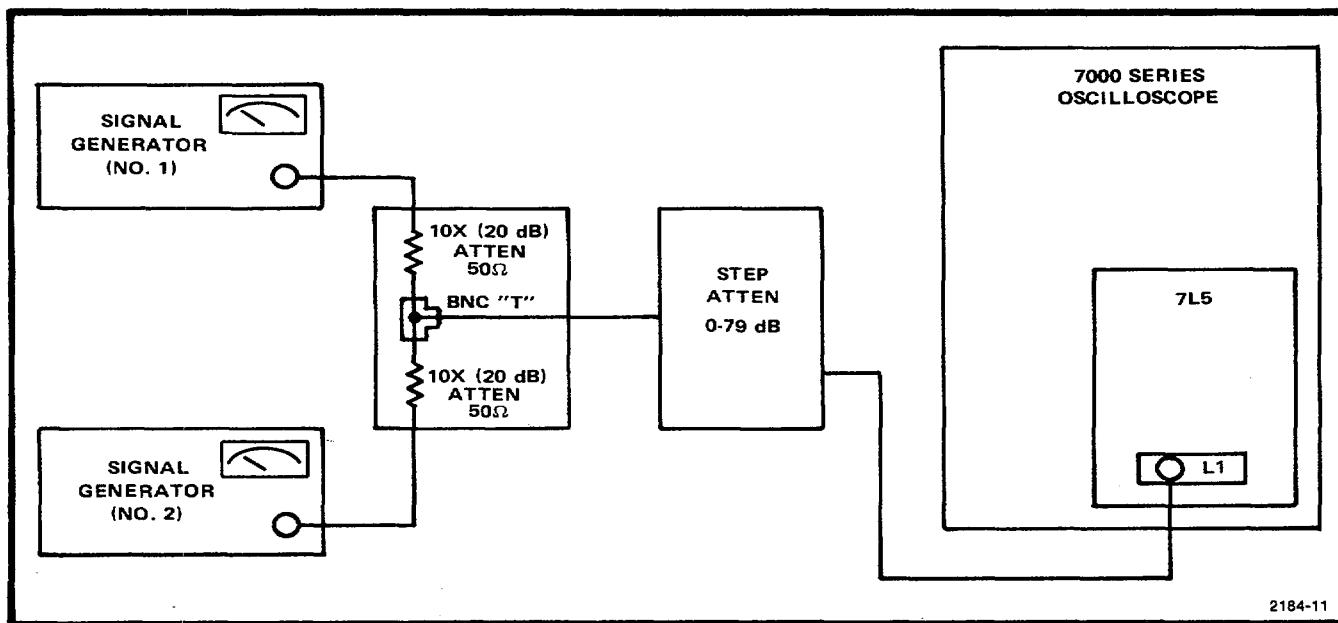

Fig. 3-5. Intermodulation distortion test equipment setup.
- a. Connect test setup in accordance with Fig. 3-5.